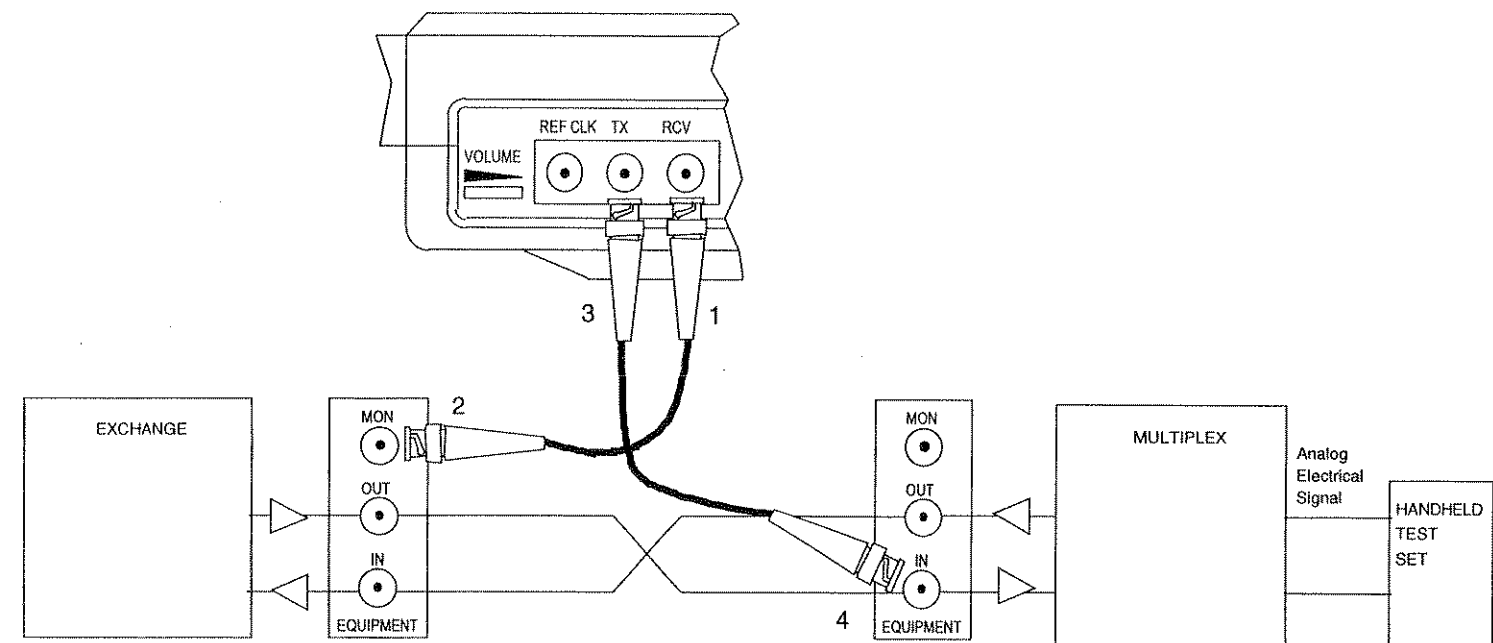

Figure 7.11A Inserting a 1020 Hz Tone Hitlessly
Here is a procedure for hitlessly inserting a 1020 Hz tone into your circuit. Refer to Figure 7.11A.
- 5) Connections must be made in the order indicated in Figure 7.11A. Failure to follow the proper connection sequence may result in the circuit being taken out of service. Use this procedure:
- a) Unplugging the circuit's IN connector (connector 4 in Figure 7.11A).
connector (connector 2 in Figure 7.11A).